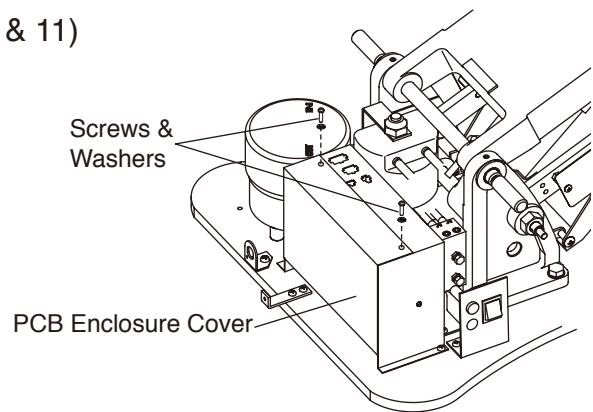

Figure 10
18) Setting Seat Motion Control Limits (Figures 10 & 11)